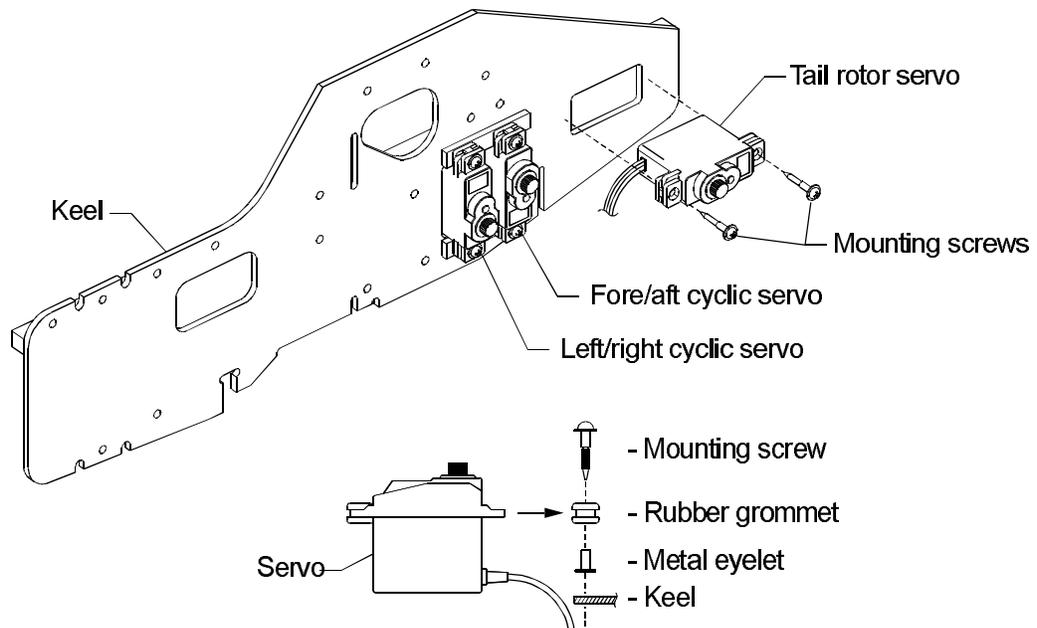

Figure 5-3.
- ❑ 4. Install rubber grommets into the mounting arms of each of your servos as shown in Fig. 5-3.
- ❑ 9. Drill all the screw holes marked in the previous step with a small drill bit (about .050" or 1.3mm diameter). Mount the servos to the keel as shown in Fig. 5-3 and install all servo mounting screws. If any screws split the wood, remove the servo and apply a drop of thin CA to the split area to repair the hole. Re-drill the repaired hole if necessary.